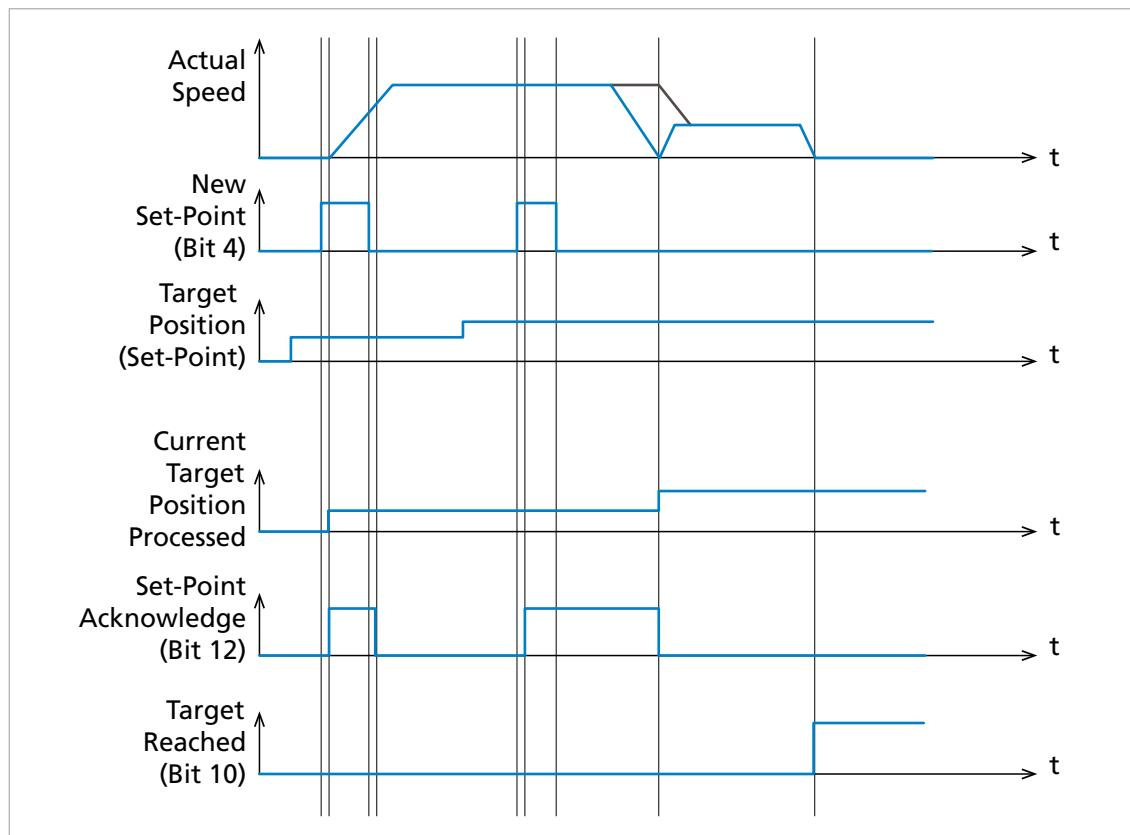

Fig. 19: Handshaking procedure for the set of setpoint value methods
- Bit 9 of the controlword (Change on Setpoint) controls the dynamic behaviour during the transition from one setpoint value to another setpoint value (see Fig. 19):